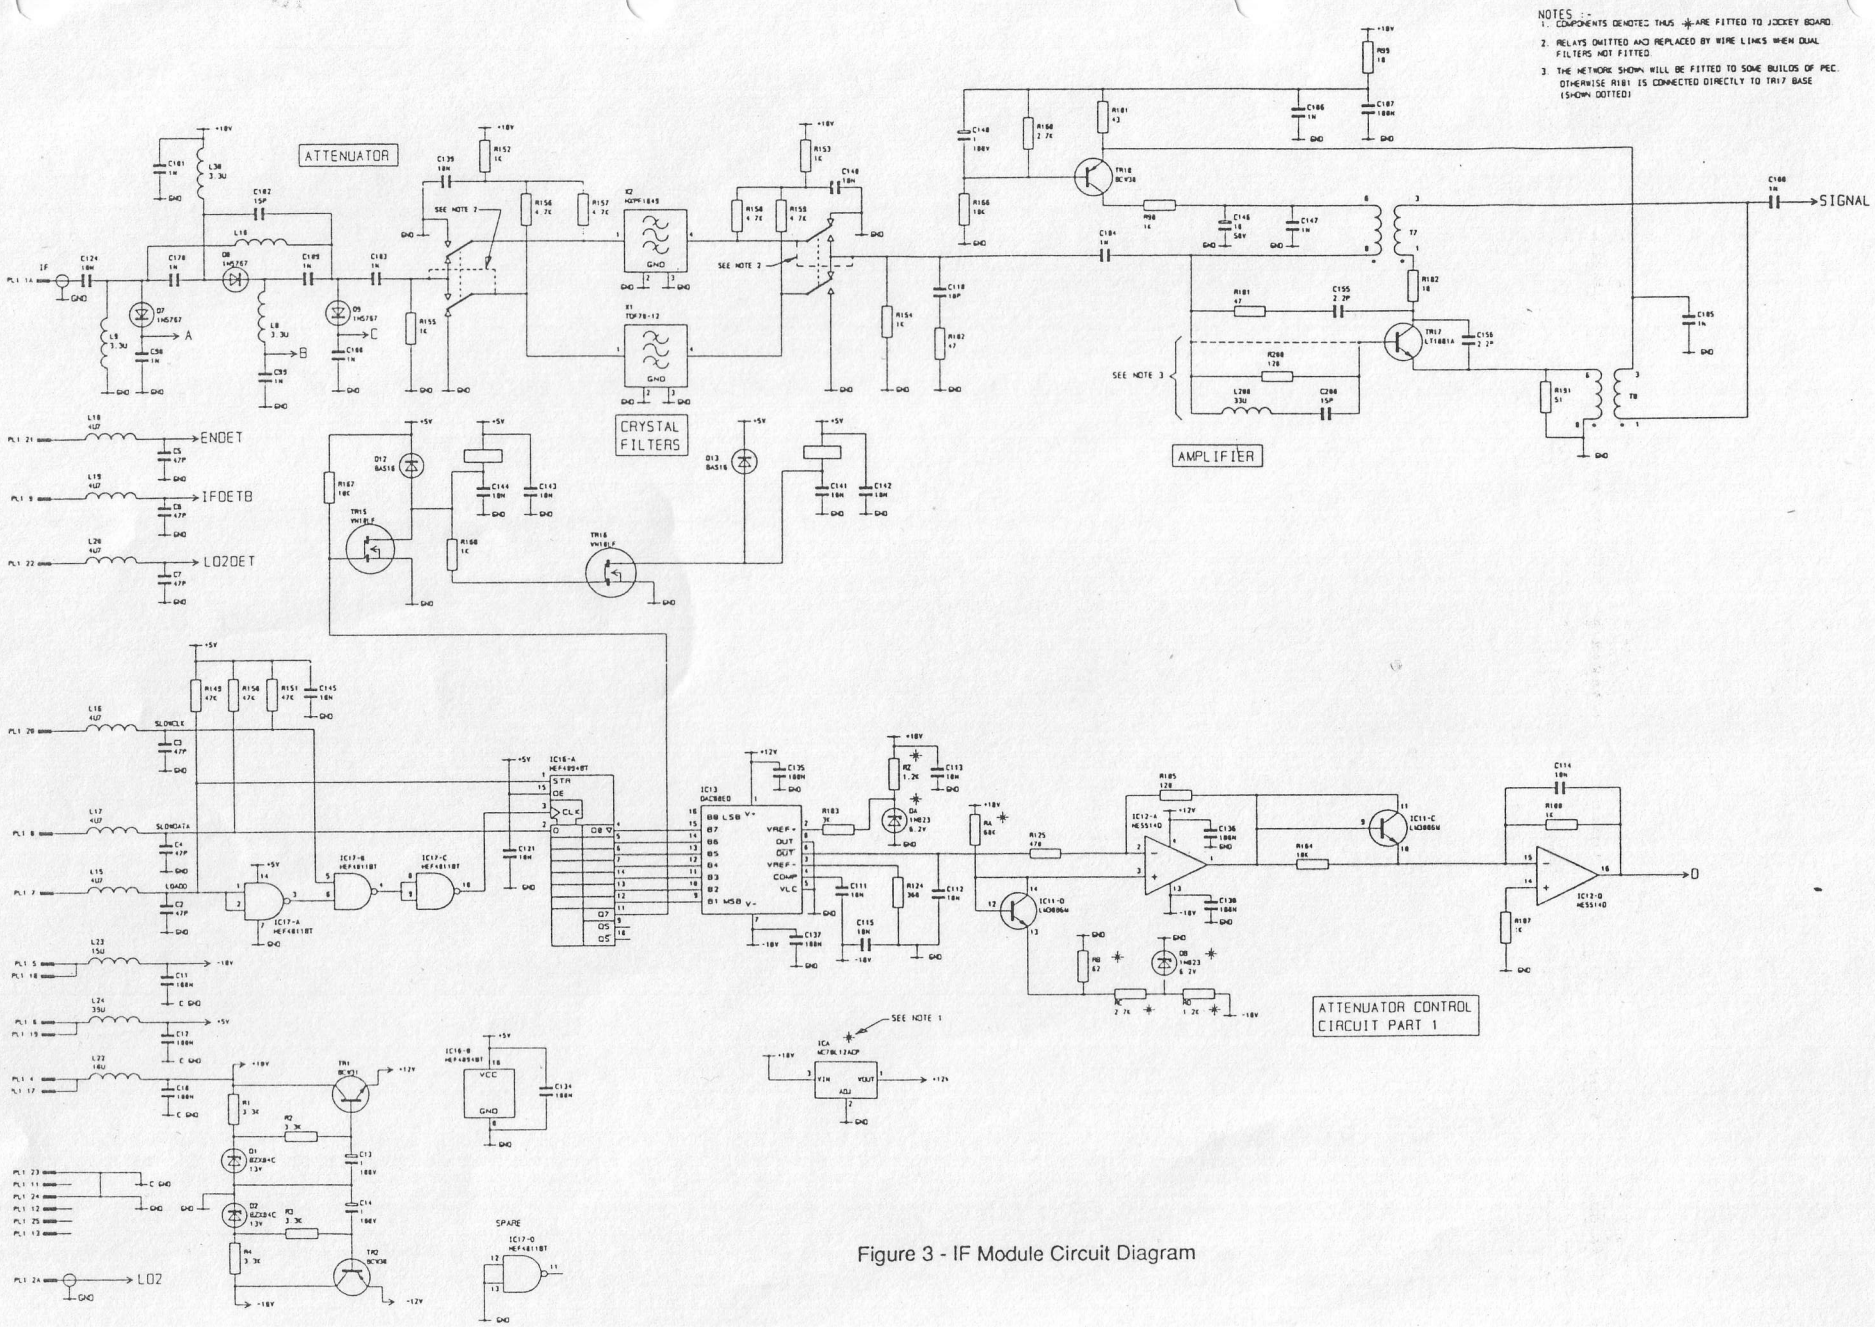

Figure 3 - IF Module Circuit Diagram
- Figure 3 Look-up Table Inputs and Outputs